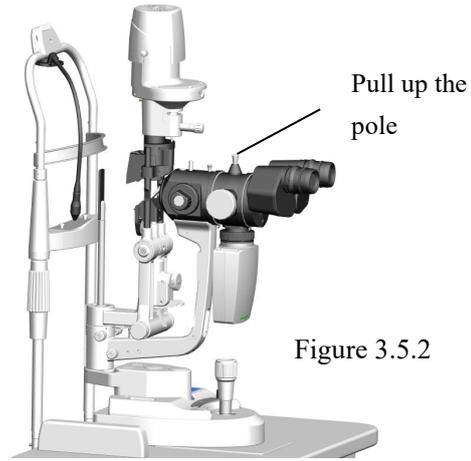

Figure 3.5.2
- When capturing images, make sure that the beam splitter lever is in the pulled up position. At this point, the microscope image can be captured, and the light pass through eyepiece will decrease and the field of view brightness will decrease (see Figure 3.5.2).